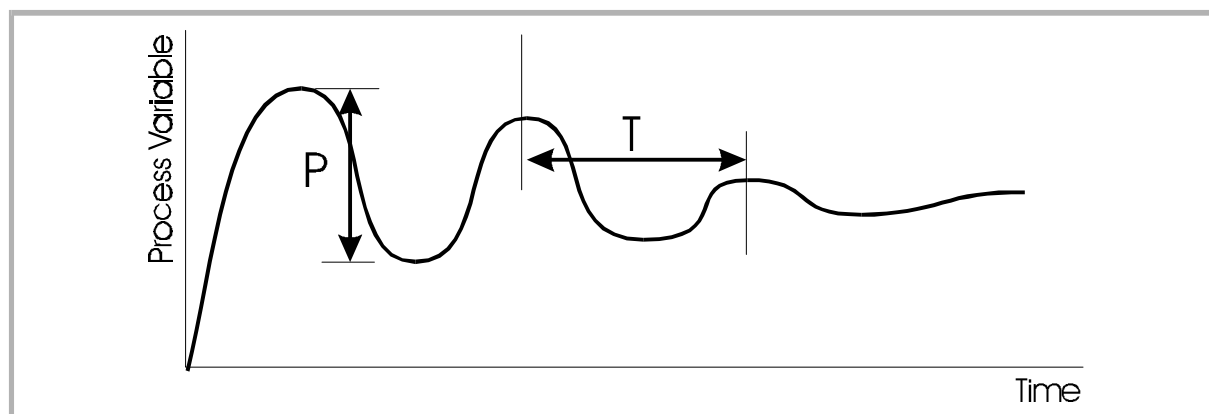

Figure 2-4 Manual Tuning Parameters (Output 1 only)
- (a) The peak-to-peak variation (**P**) of the first cycle i.e. the difference between the highest value of the first overshoot and the lowest value of the first undershoot - see Figure 2-4)
- (b) The cycle time (**T**) of this oscillation in minutes (see Figure 2-4)